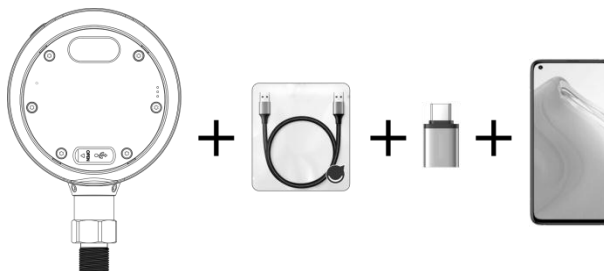

Figure 22 Connect to cellphone through the adapter
(3) Use the adapter to charge the device by cellphone (the cellphone must support TYPE-C OTG), as shown in Figure 22, connect the adapter to the TYPE-C port of the cellphone, and then use the TYPE-C cable to connect to the device, to charge the device by cellphone.